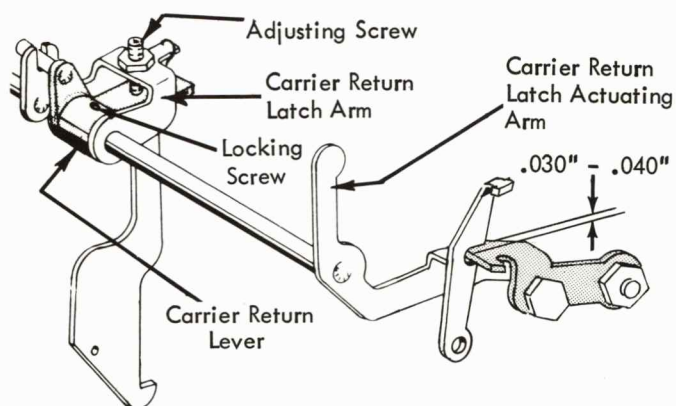

FIGURE 141. Clutch Latch Overthrow Adjustment
- a. **Carrier Return Lever** - Position the carrier return lever laterally on the latch actuating arm pin so that the carrier return latch will hang vertical without binding against its interposer. Be sure to tighten the locking screw in the lever onto the flat portion of the pin (Fig. 141).
- b. Carrier Return Latch Arm Adjusting Screw (overthrow) - With the carrier return cam on the high point adjust the latch arm adjusting screw (Fig. 141) so that the clutch latch will overthrow the latching surface of the keeper by .030" to .040". Be sure that the platen and feed rolls are installed and the index selector lever is in the double index position when checking this adjustment.